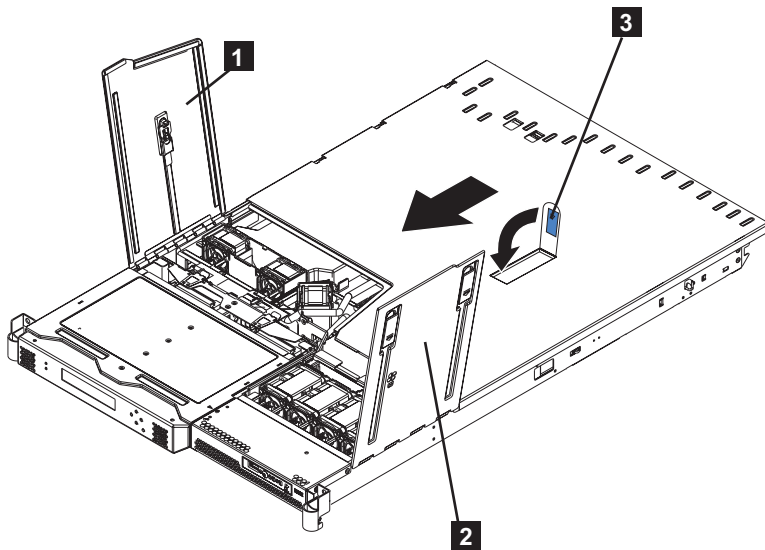

Figure 70. SAN Volume Controller 2145-8F2 with the access doors open
3. Press down on the cover release latch **3**, which is shown in Figure 70, until the cover properly engages all the inset tabs on the SAN Volume Controller 2145-8F2.